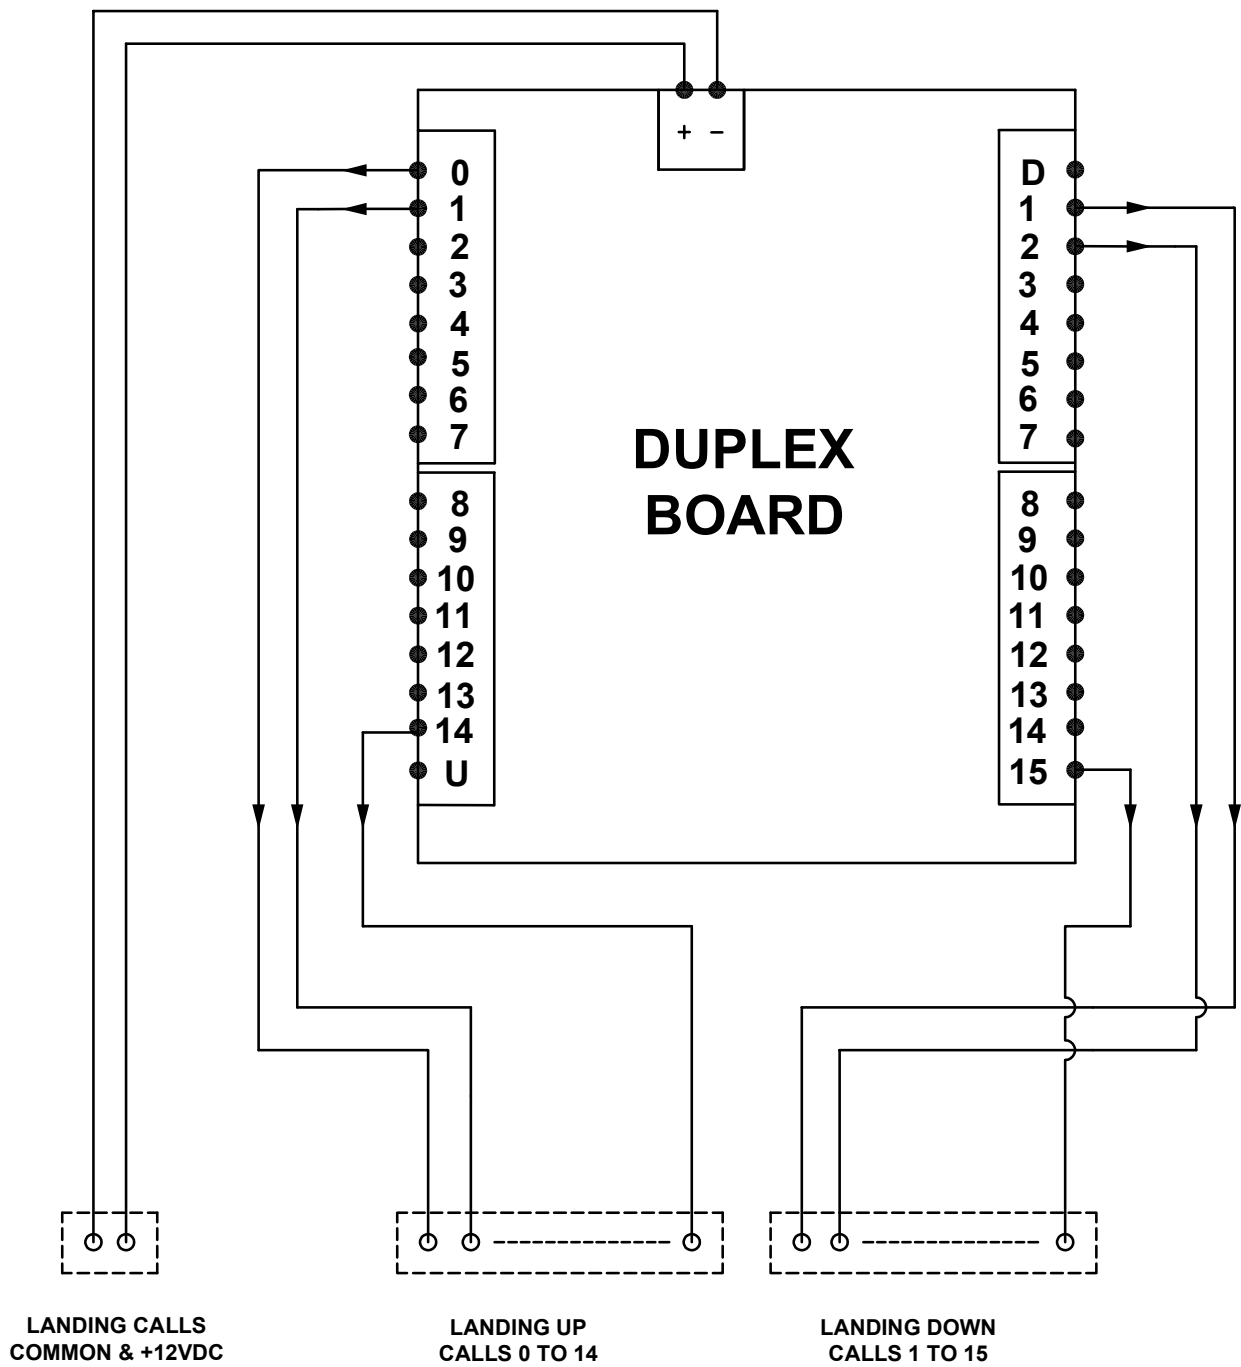

Figure 6.0 - Landing Calls Connections
The terminals of the Landing Calls are connected as illustrated in Figure 6.0.
- The positive (+) terminal illustrated in Figure 6.0 is used as a +12V DC terminal for the external calls.
- The negative (-) terminal illustrated in Figure 6.0 is used as a common terminal for the external calls.